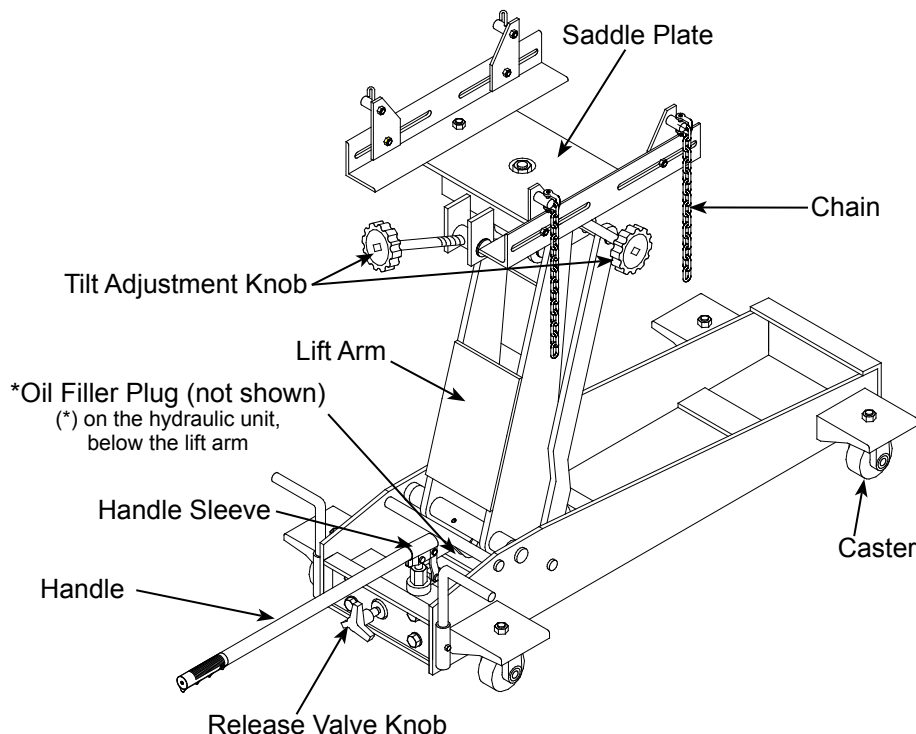

Figure 1- Typical Transmission Jack Components (42000C shown)
1. Verify that the product and application are compatible, if in doubt call Omega Technical Service (888) 332-6419.
3. To familiarize yourself with basic operation, locate and turn the release valve knob (see Fig 1):